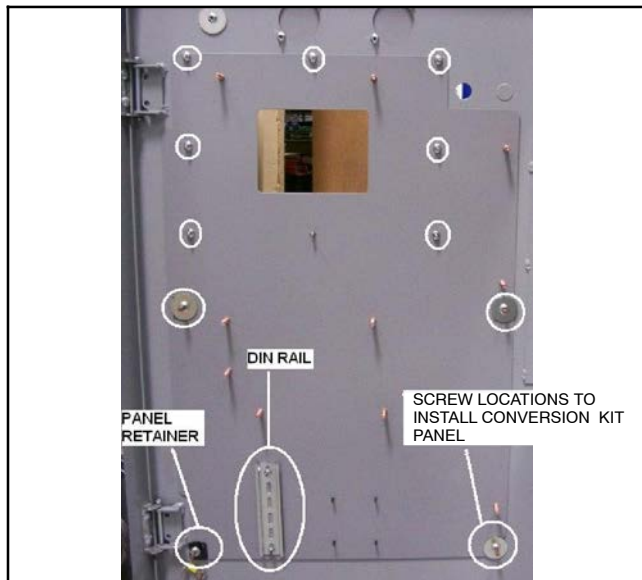

Figure 23 Mounting Plate Installation
14. Install the conversion kit mounting plate (GM60611). Use seven lock washers (X-22-7) and seven nuts (X-6210-4) to install the mounting plate as shown in Figure 22 and Figure 23. Install three flat washers (X-25-122) with three nuts (X-6210-2) as shown.